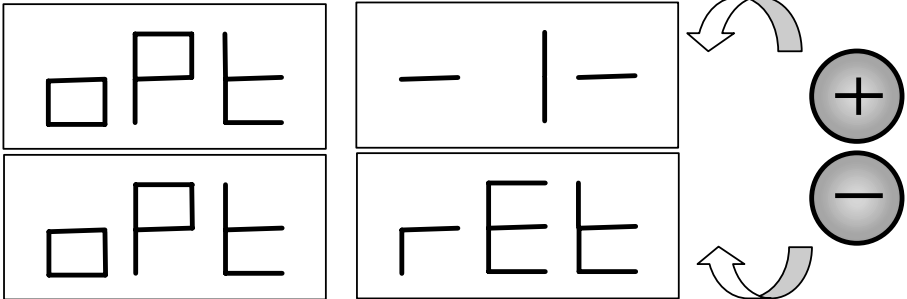

Fig. F5.1 Access to the Optimisation programme
1. Press **[F+P4]**  + . The display will show the options shown in figure F5.1. Press **[P4]**  or **[P5]**  and choose the option **oPt-1-** to continue, or the option **oPt rEt** to return to the operating programme. Press **[F+P4]**  +  to confirm the chosen option;